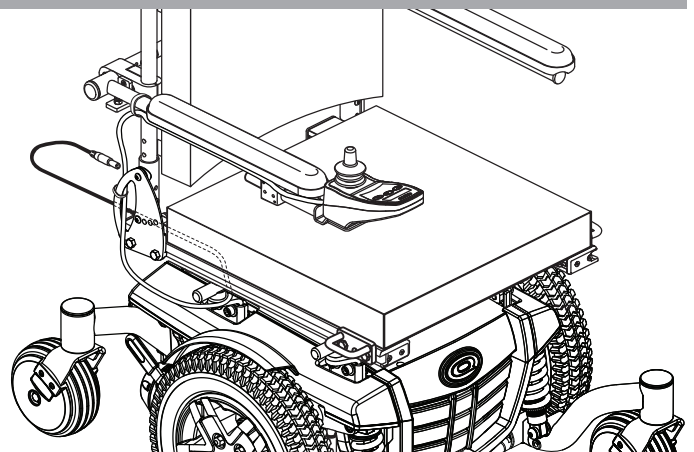

Figure 5. Controller Harness Routing on a Synergy Seat
5. Secure the controller harness to the armrest receiver with wire ties. **See figure 5.**